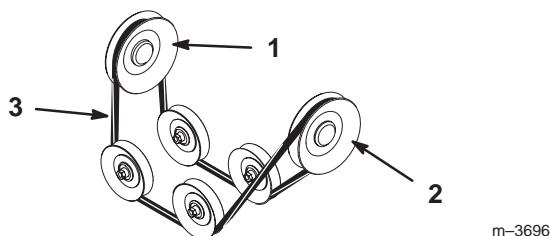

Figure 15
- C. Route the snowthrower belt around the engine PTO pulley (Fig. 15).